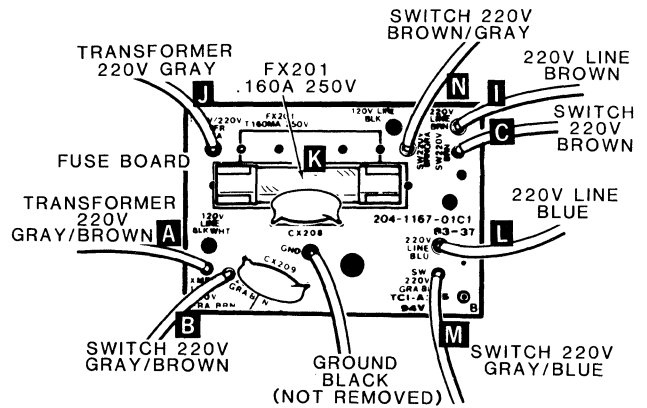

Figure 2.7
- Refer to Figure 2.7 and solder the two 220-volt transformer leads at A (the gray-brown lead) and J (the gray lead) on the fuse board.
- Refer to Figure 2.7 and remove and replace the 4 amp fuse at K on the fuse board (FX201 — part number 136-114-23) with a .160 amp fuse (part number 136-133-07).